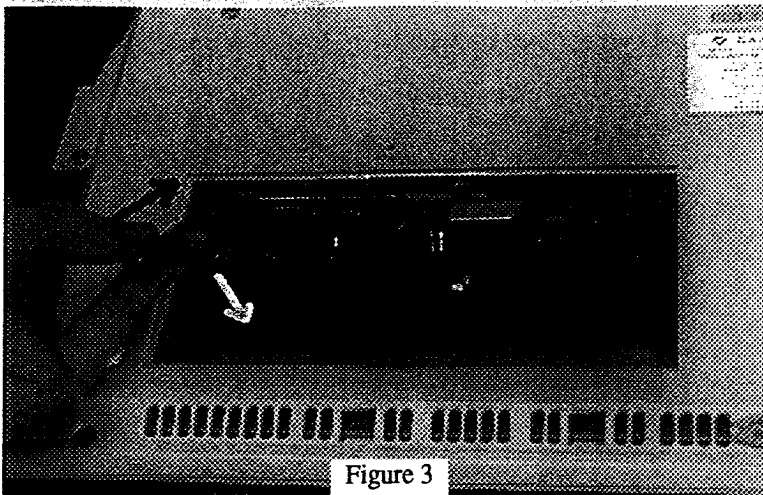

Figure 3
- (4) Holding the DKB Cobra board so that the chips are facing up, slide the board into the opening, tilting the L-shaped back edge down slightly. Make sure that the back edge of the board is resting on top of the small plastic lip along the back edge of the opening (see Figure 3).
- (5) Line up the connector on the board with the edge of the board in your computer. Push the board towards the connector until it is seated firmly.
- (6) Snap the plastic cover back into place
- (7) Turn your computer over, and re-connect the cables
- (8) Turn the computer on. If the power light does not come on, or the A1200 does not seem to start normally, turn the power off immediately, and re-check your connections.